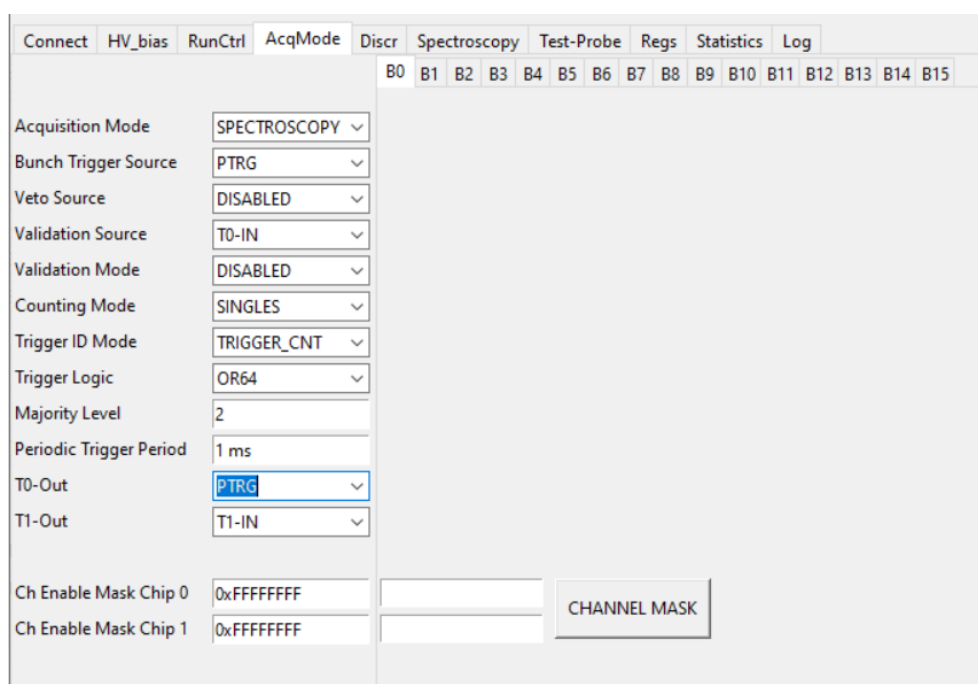

Fig. 10.20: AcqMode tab of the Janus GUI.
6. Click on the AcqMode tab of the Janus GUI (see Fig. 10.20). The user can vary the period of the internal periodic pulse by writing down for the "Periodic Trigger Period" parameter a value between "16 ns" and "34 s". In this example a value of "1 ms" was chosen.
2. Select the "PTRG" option for the "Bunch Trigger Source" parameter. The internal periodic signal will then be used both to pulse the board channel and to force the triggers, i.e. the acquisition of the pulse height values. The user can refer to Fig. 10.20 in order to see the settings chosen for the test.